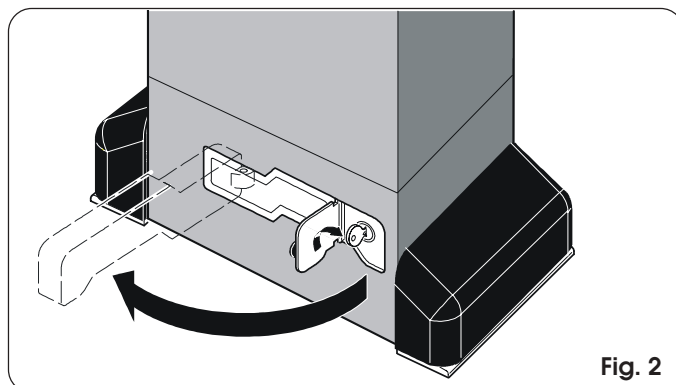

Fig. 2
- 2) Turn the key clockwise and pull the release lever as shown in Fig. 2.